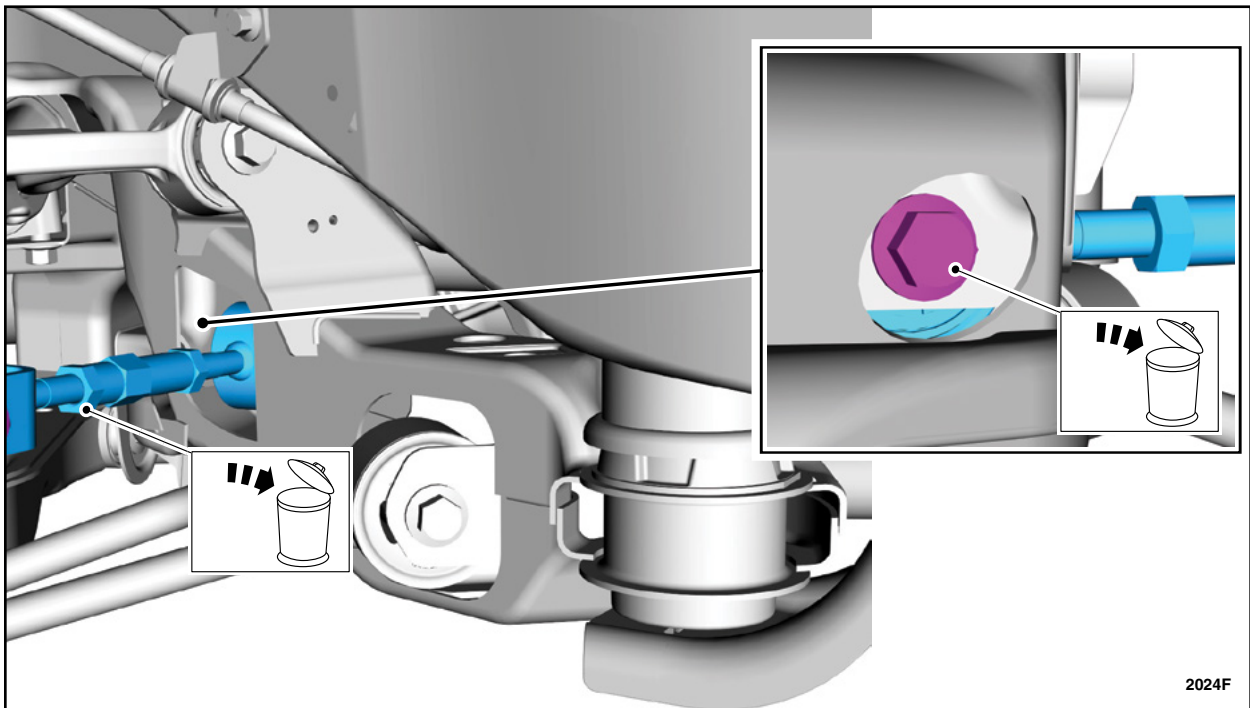

FIGURE 8
11. Remove and discard the toe link to subframe bolt and the toe link. See Figure 8.